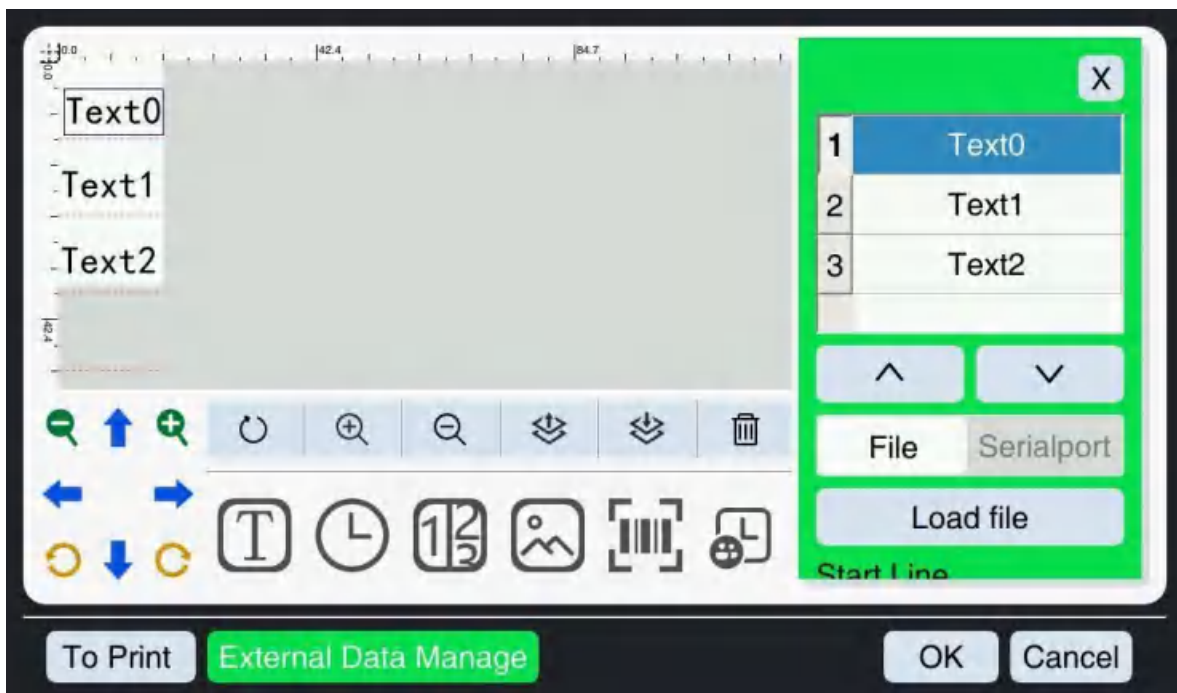

Figure 7-2
2.Editing the external data file on the inkjet printer. Clicking the "Create File" button on the main interface and selecting "Text", and then select "External Data" in the advanced options of the "Information Properties Area" on the right. **Note: The number of text information created should be consistent with the number of file columns in the U disk.** Because there are 3 columns of information in the U disk, we need to create 3 text information. For each text information, you need to check "External Data" and then click the "External Data Management" button. As shown in Figure 7-2.